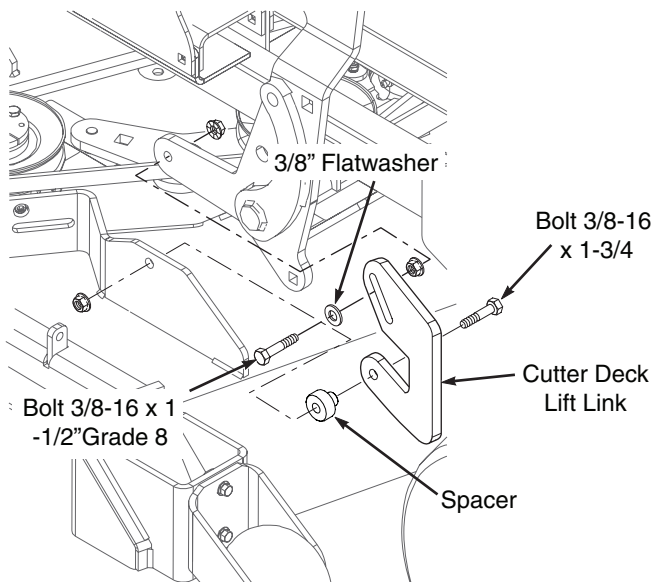

Figure 2-4. 48" Cutter Deck Bracket Installation
9. Install the cutter deck lift link (p/n 426025) and secure using the hardware provided. See Figure 2-4.